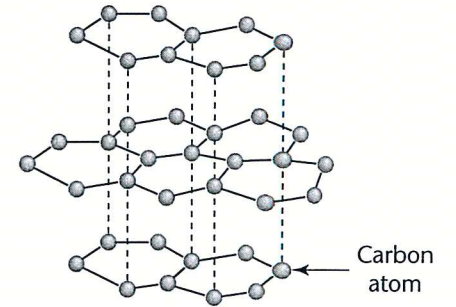

Figure 12
3. Figure 12 shows the structure of graphite.